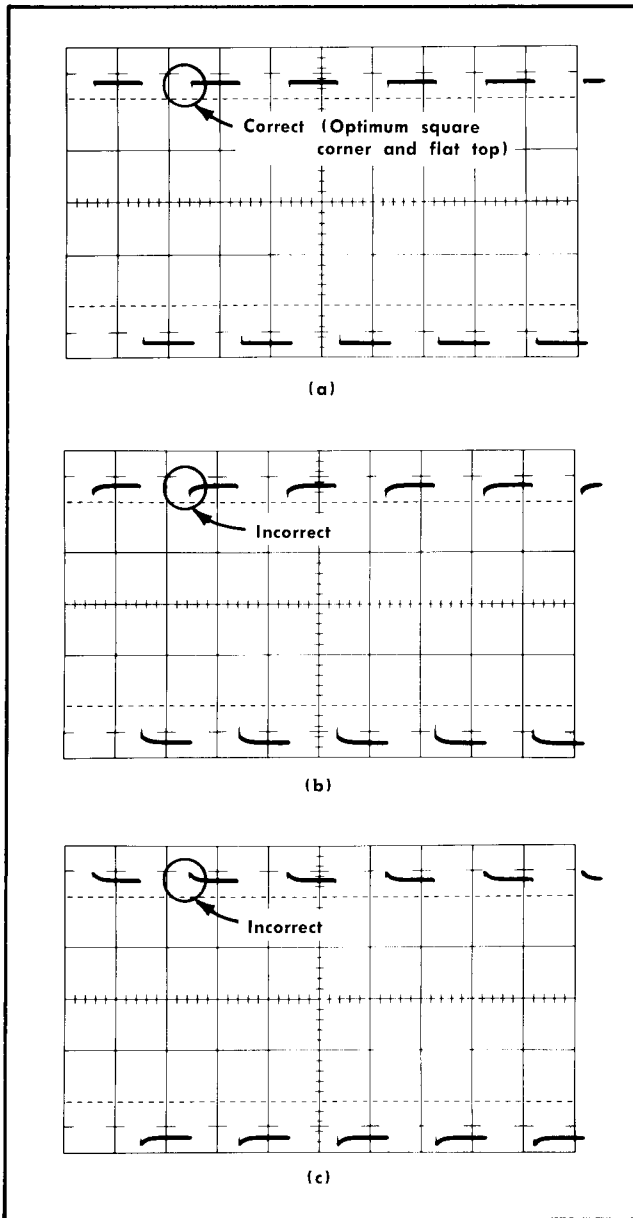

Fig. 5-5. (a) Typical crt display showing correct input attenuator compensation. (b) and (c) show incorrect compensation.
- b. Apply a 100-V square-wave signal from the oscilloscope calibrator through a coaxial cable and a 47-pF input RC standardizer (item 7) to the +INPUT connector. Connect all items in the order given.
c. Check—Top of square wave for minimum rolloff, overshoot or tilt (see Fig. 5-5). Repeat check at each VOLTS/CM switch position from 5 VOLTS through 10 mVOLTS. Set the oscilloscope calibrator for proper output to maintain a 4- or 5-cm display amplitude.